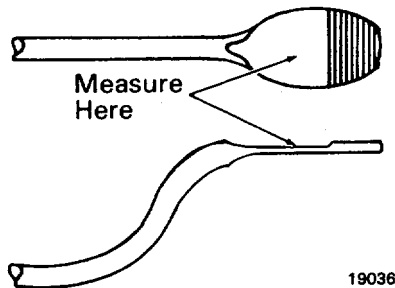

Fig. 5-35 - Leader Wire Measurement
- d. Bar the engine over one complete revolution to compress the lead wire. Remove the wire from the engine and measure the inboard portion of both compressed ends of the wire, Fig. 5-35.